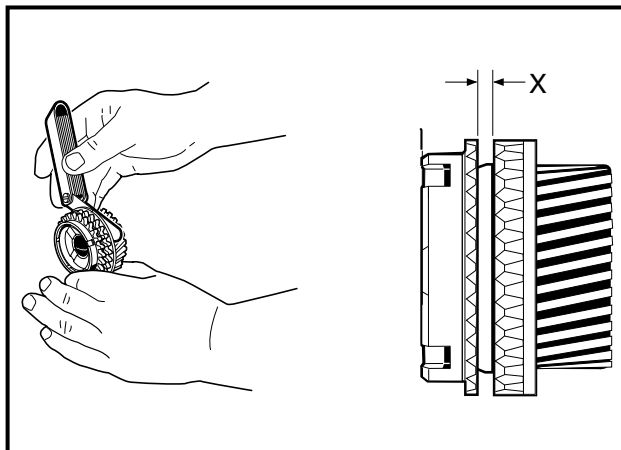

Figure 6-25 Synchronizer Ring
5. Using a feeler gauge, measure the distance X at several points around the assembly. The synchronizer ring should be replaced when X is 0.02-inch (0.5 mm) or less (**Figure 6-25, Page 6-13**).